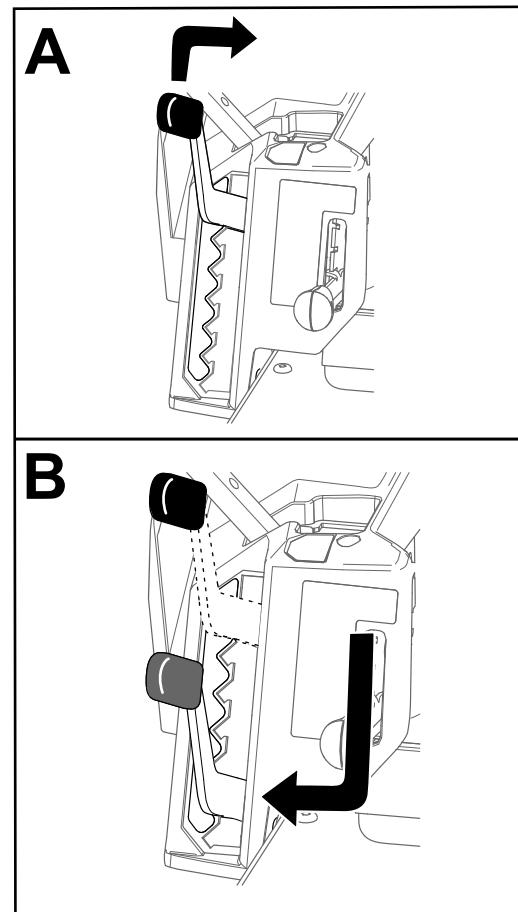

Figure 27
**Note:** The transport position is the highest height-of-cut position or cutting height at 114 mm (4-1/2 inches) as shown in Figure 27.
Height of cut is controlled by the lever located to the right of the operating position (Figure 27).